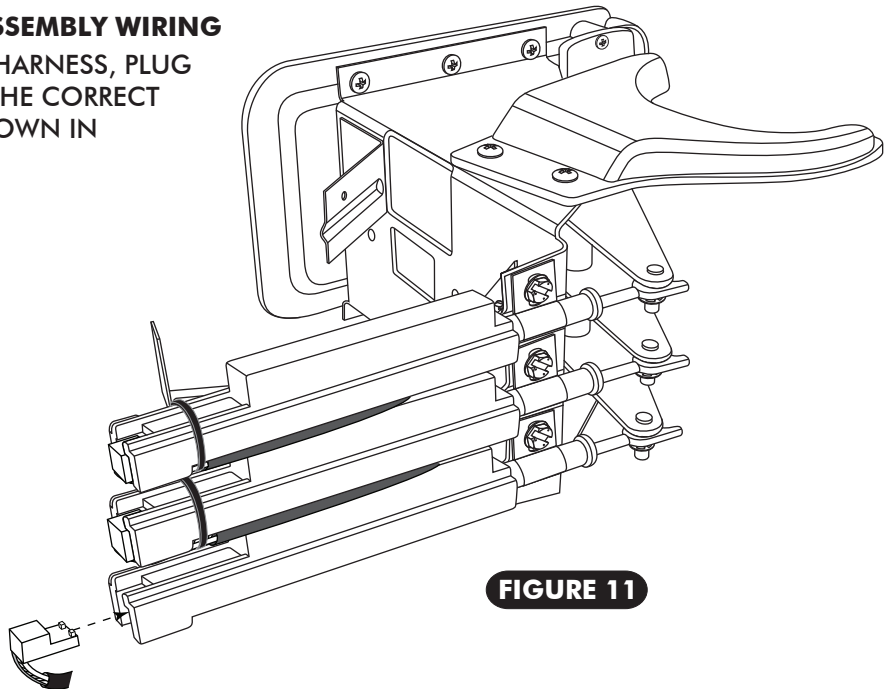

FIGURE 11
- LOCATE THE CONTROL PANEL WIRE HARNESS, PLUG THE CORRESPONDING WIRES INTO THE CORRECT CABLE CONVERTER ASSEMBLY AS SHOWN IN FIGURE 11 BELOW.